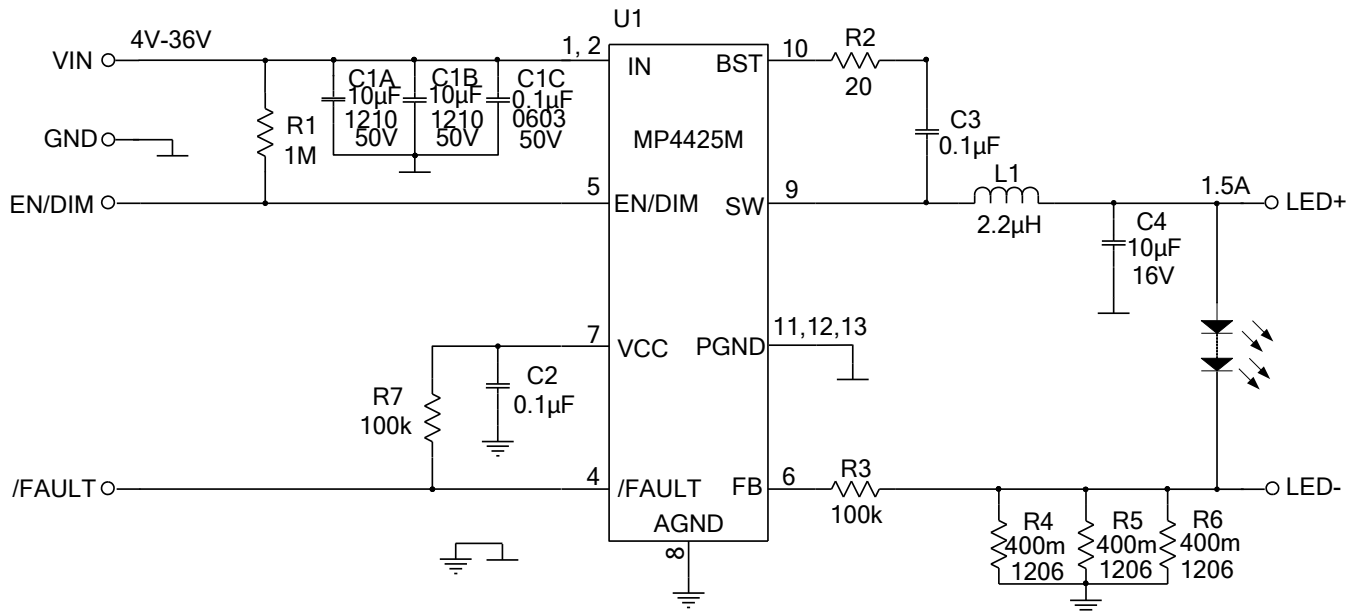

Figure 8: $I_o=1.5A$ Application Circuit
8) The recommended layout is based on Figure 8.